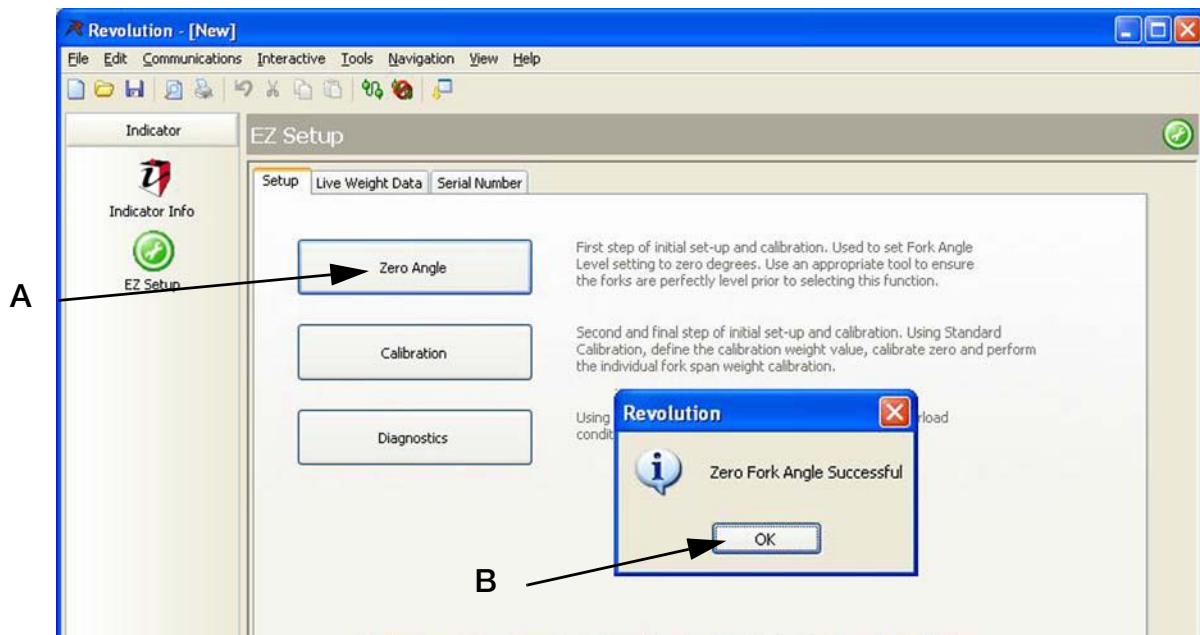

Figure 4-8. Zero Forks
2. In the setup screen, press Zero Angle (Figure 4-8 A).
3. A pop-up appears as shown in (Figure 4-8 B), press OK to close the pop-up box.